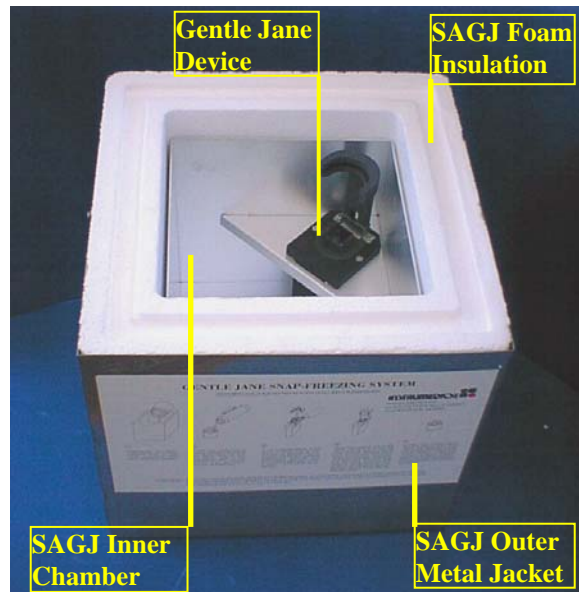

Fig. 1: Parts of the Stand Alone Gentle Jane
1. SAGJ Outer Metal Jacket (Fig. 1)
2. SAGJ Foam Insulation (Fig. 1)
3. SAGJ Inner Chamber (Fig. 1)
4. Gentle Jane Device (Fig. 1)